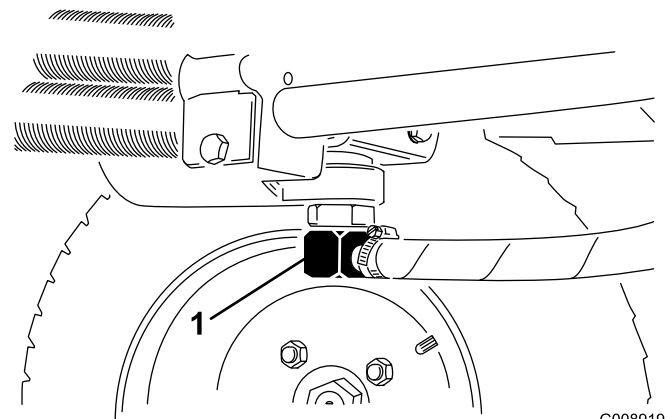

Figure 72
2. Disconnect the hydraulic line (Figure 72) or remove the hydraulic filter (Figure 73) and let the hydraulic fluid flow into a drain pan.